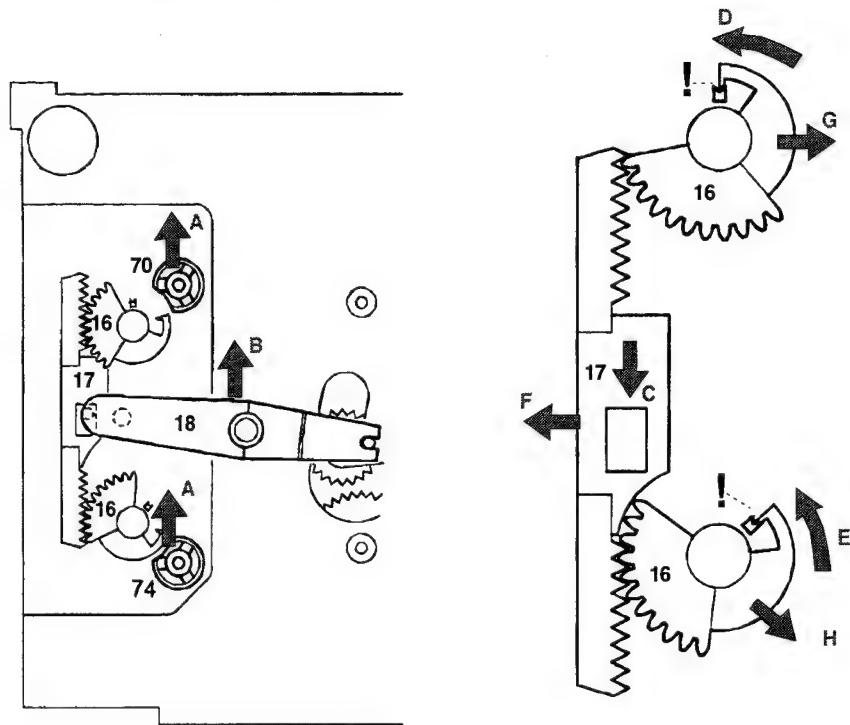

Fig. 6
11.3 Put control pins into mounting position acc. fig.6-D,E